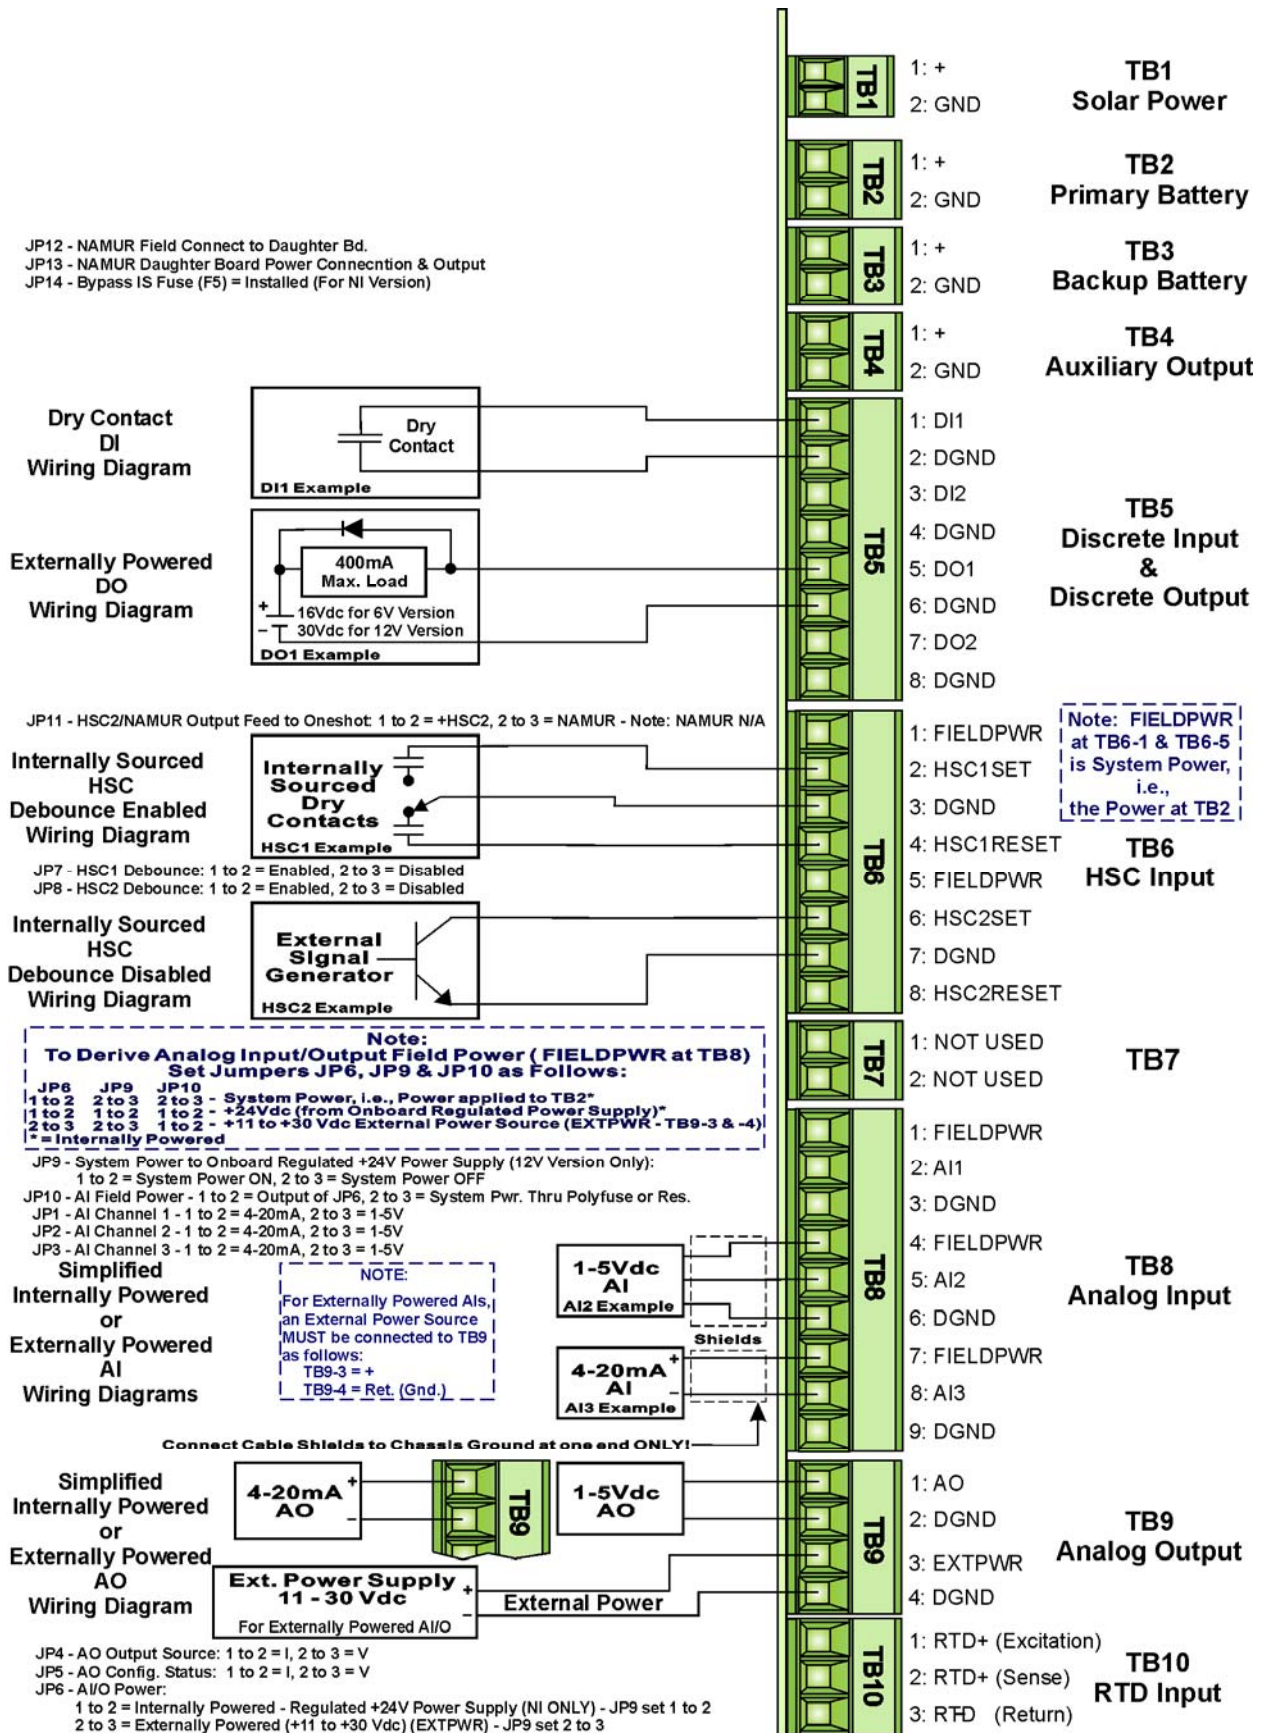

Figure 2-15 - Battery Charger and I/O Board Field I/O Wiring Diagrams
2.3.4.3 Non-isolated Discrete Input/Output Connector Block TB5 (see Figure 2-15)
Terminal Block TB5 supports two non-configurable DIs and 2 non-configurable externally powered DOs. Each DI provides a 60uA source current from 3.3Vdc. Open drain MOSFETs associated with each DO provide up to 100mA each @ 16Vdc for a 6V system or 100mA @ 30Vdc for a 12V system to an externally powered device. Field wiring assignments are provided in Figure 2-15.
2.3.4.4 Non-isolated Analog Input Connector Block TB8 (see Figure 2-15)
AI circuits are provided with Configuration Jumpers that accommodate configuration of each of the three Analog Inputs. Analog Input can be individually configured for 1-5V or 4-20mA operation. Field wiring assignments are provided in Figure 2-15.
2.3.4.5 Non-isolated Analog Output Connector Block TB9 (see Figure 2-15)
2.3.4.6 Non-isolated High Speed Counter Input Connector TB6 (see Figure 2-15)